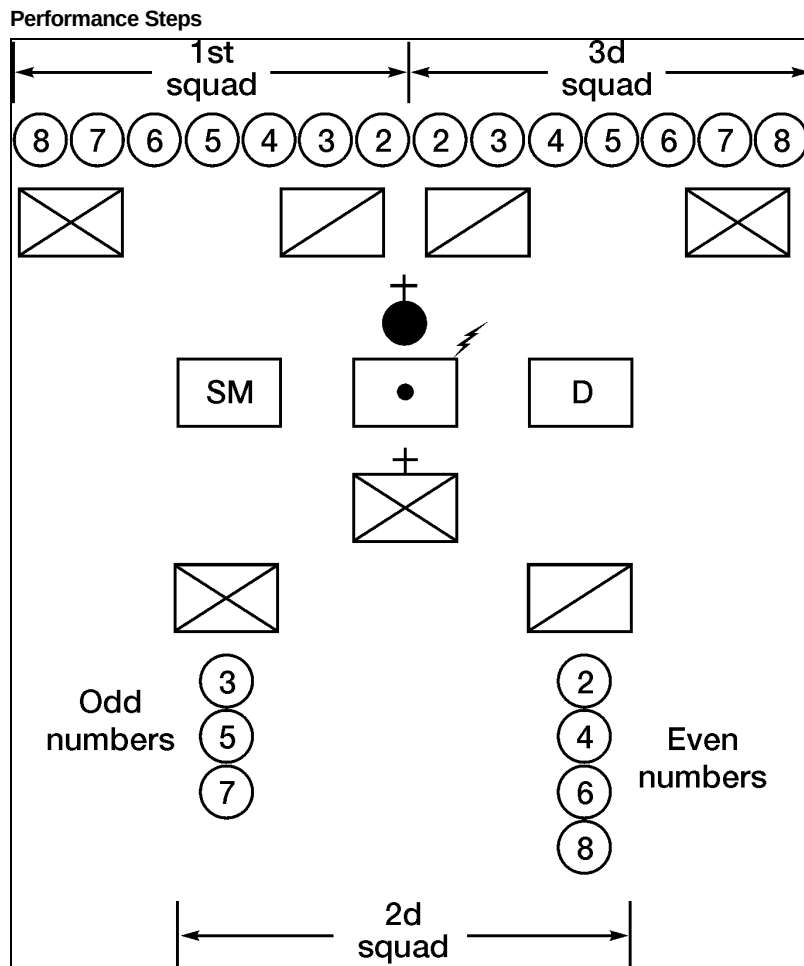

**Figure 191-379-5400-2. Platoon Line with One Squad in General Support in a Column of Twos**
a. Form the platoon line with one squad in general support in a column of twos (figure 191-379-5400-2).